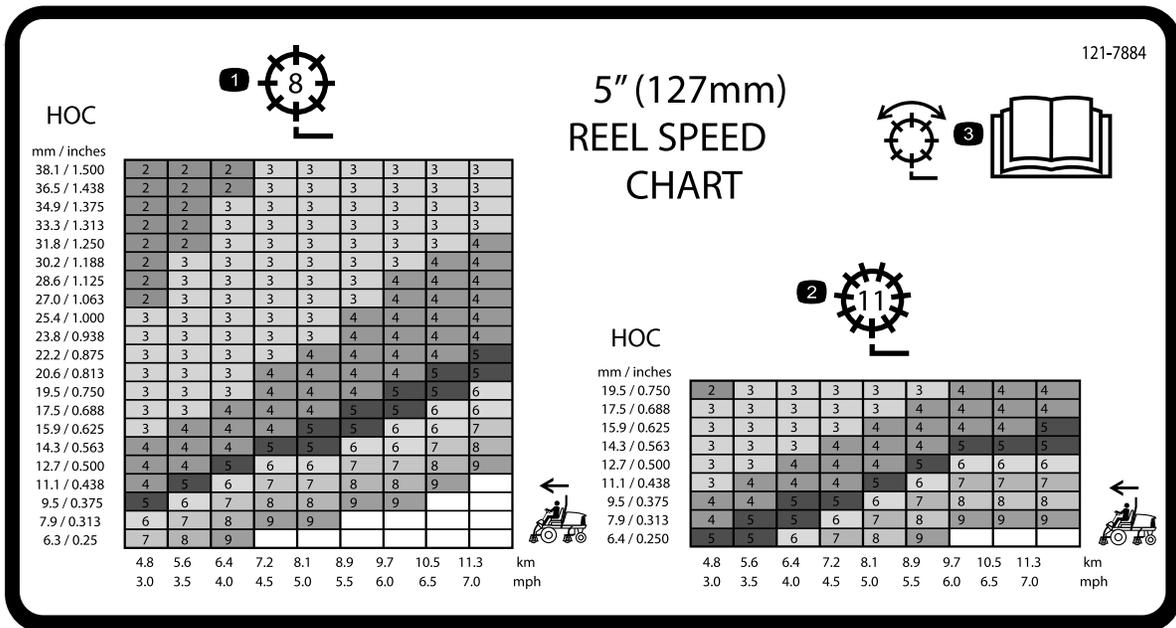
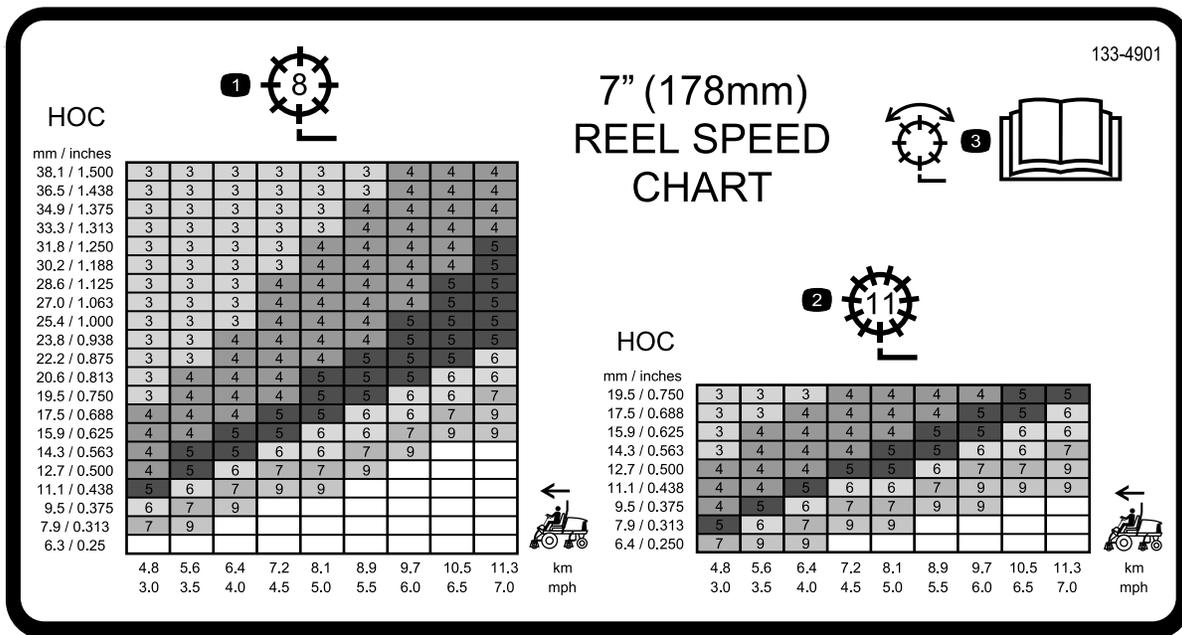

Figure 40
Figure 41
3. Use the graph on the reel speed chart decals (Figure 40 and Figure 41), to determine the proper reel speed setting.